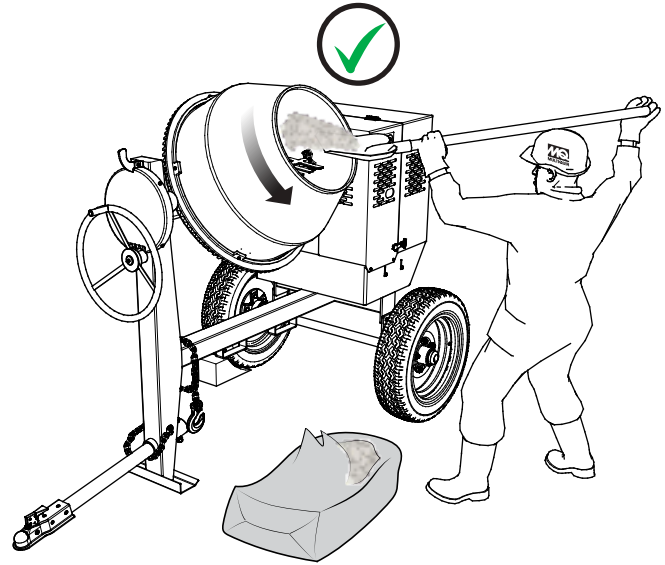

Figure 24. Filling Mixing Drum (CORRECT)
2. As the drum rotates, use a shovel (Figure 24) to place the cement mix inside the drum, add water as required. Be careful to only place the tip of the shovel inside the drum.